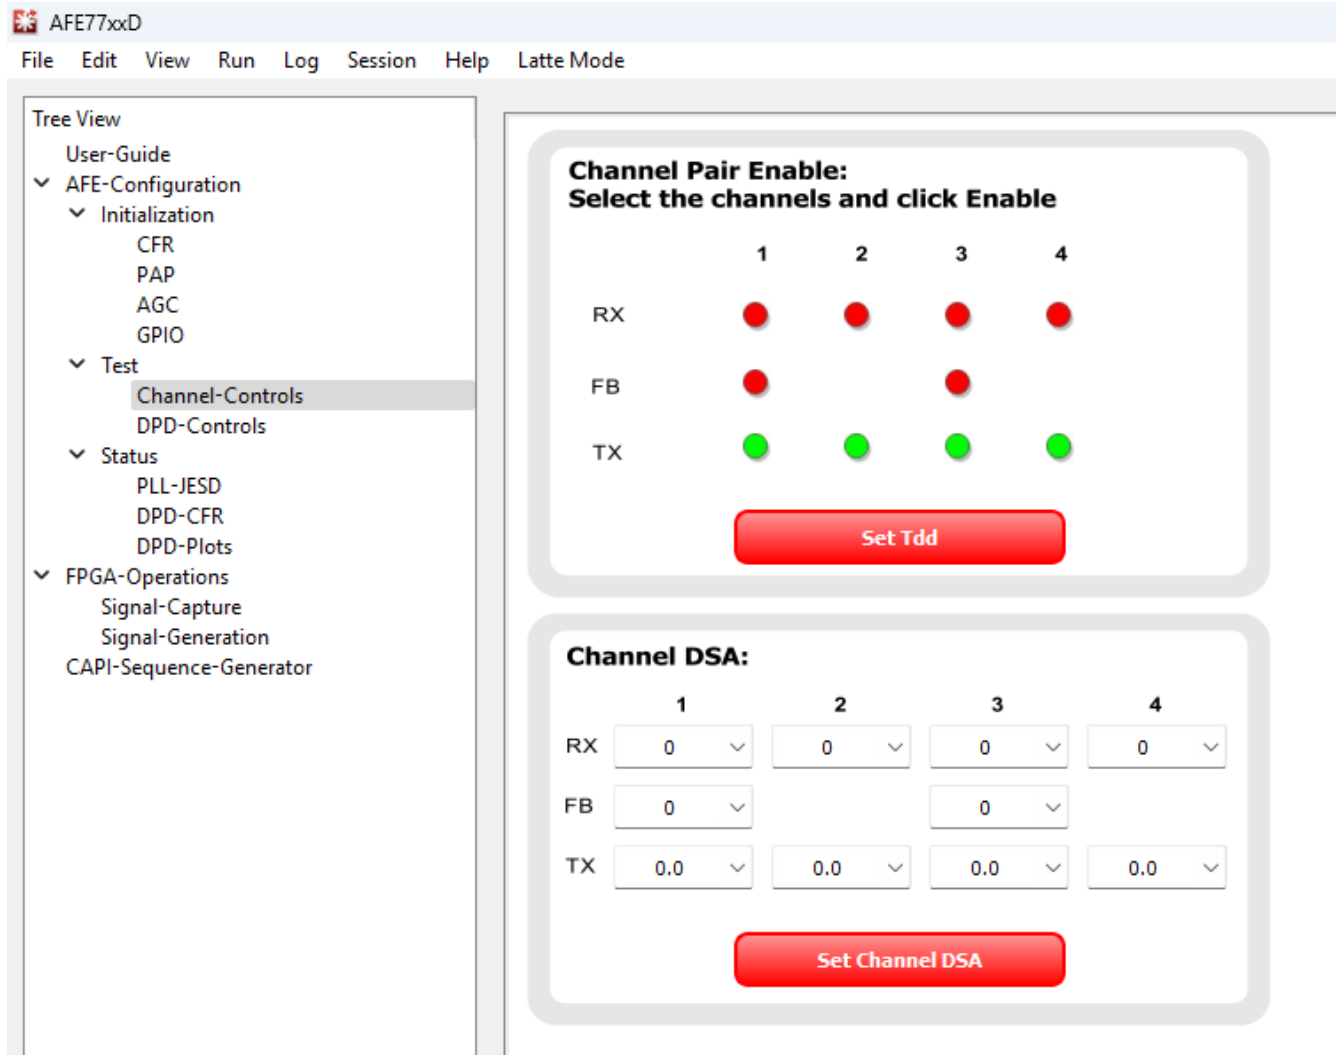

Figure 3-18. Enabling TX TDD
- Enable the TDD for the TX channels by setting them to green like in Figure 3-18. Then, click *Set TX TDD*. A message should appear on the log window that says “TDD set”.